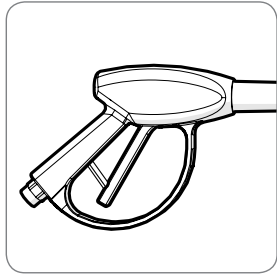

Fig. 6
- Check that the trigger switch on the jet lance is in the locked position. (Fig. 6)